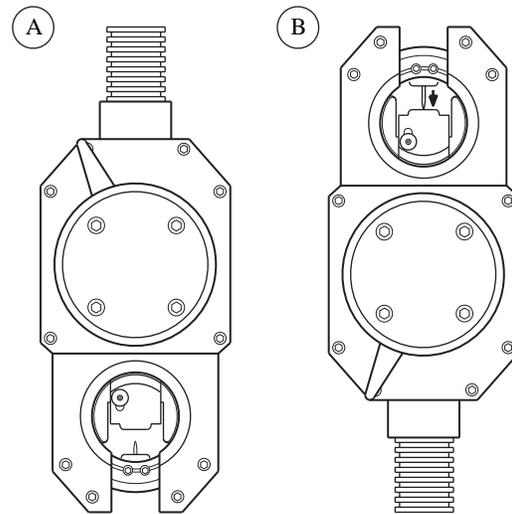

Figure 9 Setting the Arc Gap
2. Insert the arc gap gage into the rotor. See Figure 9(A).
3. Tilt the weld head upward. Loosen the electrode clamping screws allowing the electrode to drop onto the gage surface. See Figure 9(B).